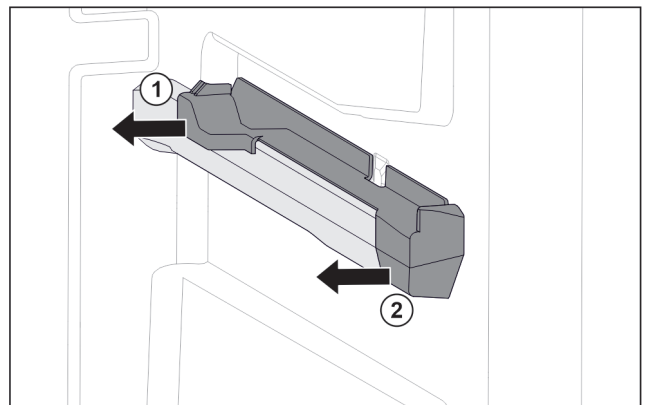

Fig. 127 Attachment on the right moulded rib
- ▶ Pull off attachment at the back sideways. Fig. 127 (1)
- ▶ Pull off attachment at the front sideways. Fig. 127 (2)